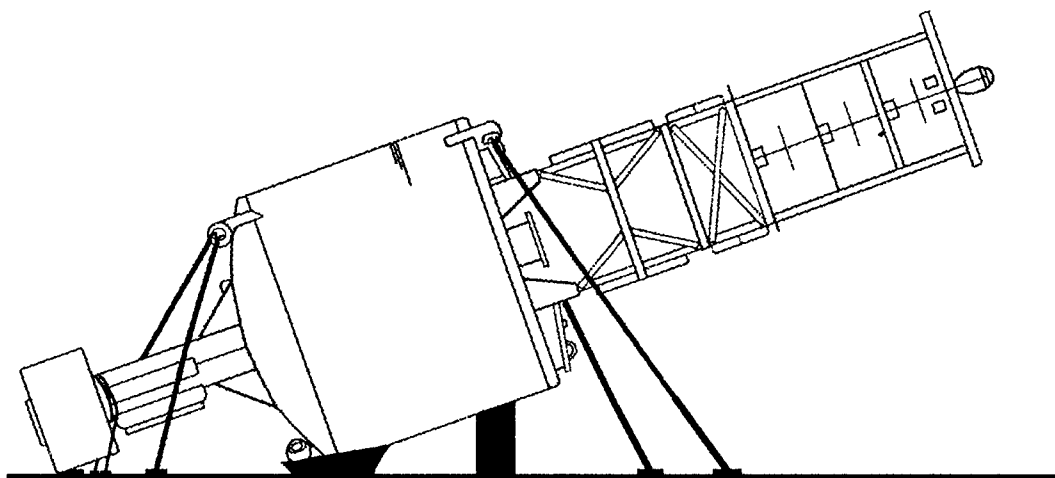

Figure 8-6 Buoy with a tube gripe
- (1) The saddle and head block are already in the approximate gripe-down position. After the chain is set in the chain stopper the saddle is positioned, using the tag lines. Position the saddle so the chine of the buoy will rest in the middle of the saddle. The buoy is lowered and set in the saddle but a slight strain is kept on the purchase hook. Once the buoy rests in the saddle, the head block is slid into place and seated with a sledge hammer.
- (c) In instances where the buoy will remain in the slot only temporarily, an alternate griping method may be used. Once the buoy is set in the saddle and the head block set, the hogging line is run through a pear link located inboard of the stopper. A round turn is then taken around the buoy tube and the hook set into a padeye aft of the buoy (see **Figure 8-6**). The hogging line (tube gripe) is then hauled taught and held. The cross deck is left attached to the buoy and kept taught. Once all other parts of the particular evolution are completed the buoy is then moved to its final stowage location on deck.
- (2) After the head block has been set, the buoy is griped down to the deck. Different buoy types, deck padeye locations, deck loads, and sea conditions create a myriad of griping possibilities. We will cover only a few of the more common gripe-down configurations here. Some simple rules to keep in mind will help in those more unusual griping situations: (1) Plan; always have a gripe-down plan before bringing a buoy on board. (2) Opposing forces; lead the gripes so they control the aft as well as the forward movement. (3) Keep the personnel out of harm's way; never place personnel on the buoy to accomplish the griping.